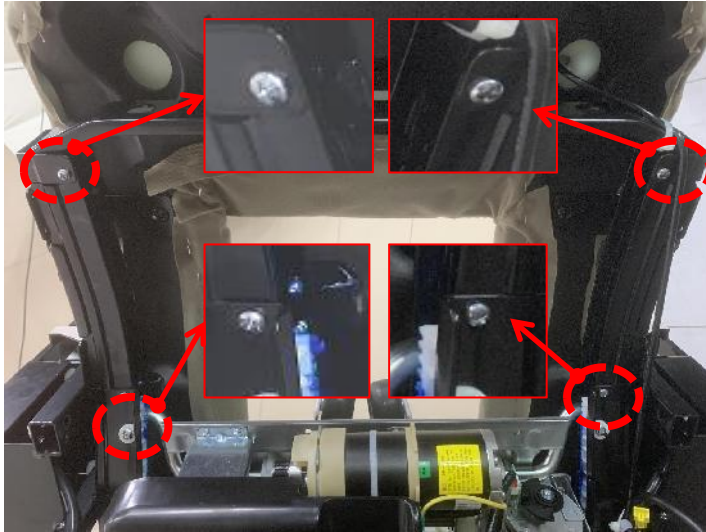

Figure 1
1. Remove 2 screws for each of the left and right guide rail patches (Figure 1)